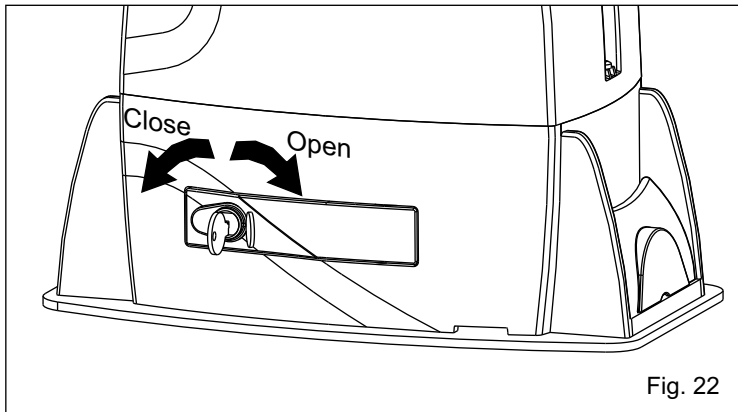

Fig. 22
- Open the lock cover, insert the key and rotate it 90° clockwise (Fig. 22).